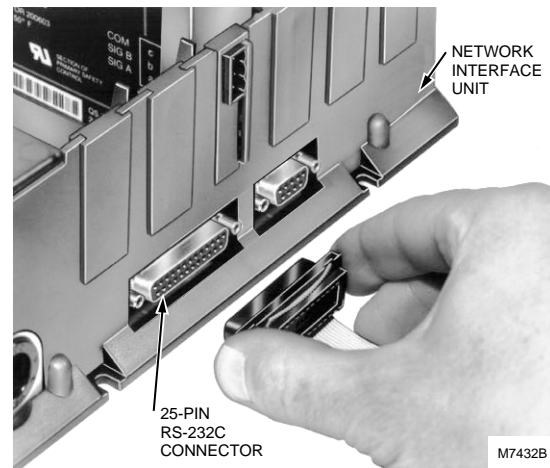

Fig. 3. RS-232 Interface insertion (serial communications).
10. Connect the serial port of the personal computer to the 25-pin RS-232C port on the Network Interface Unit for local personal computer application, see Fig. 3.